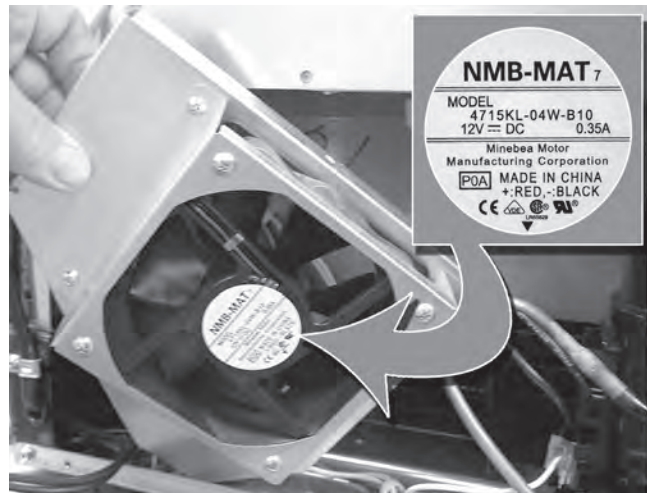

Figure 3
3. Remove the fan assembly, see figure 3.